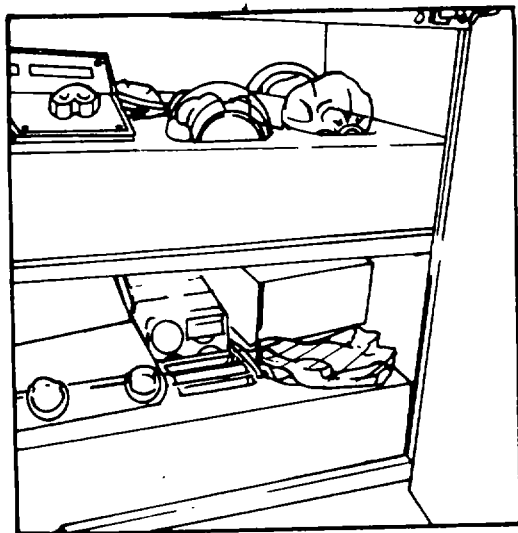

Figure 1-11. Fluids Contamination Set
d. The fluids contamination set (Figure 1-11) is capable of extracting metallic and nonmetallic particulate matter from used oil samples for microscopic examination. The set requires the presence of a vacuum to expedite the participation process. Normally stored within the cabinet K3, this unit is positioned on the curbside countertop next to the waste oil drain when deployed.